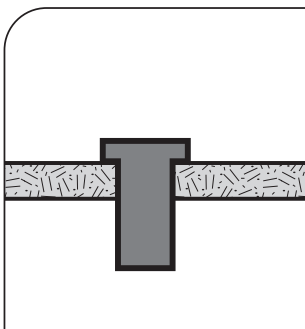

Fig. 3.5. Well-Nut is inserted into a pre-drilled hole with its flange against the outer surface. There is no need for access to the inner side.
- Insert the ¼" Well-Nut into the drilled holes so that only the flange section remains above the roof surface (Fig. 3.5).